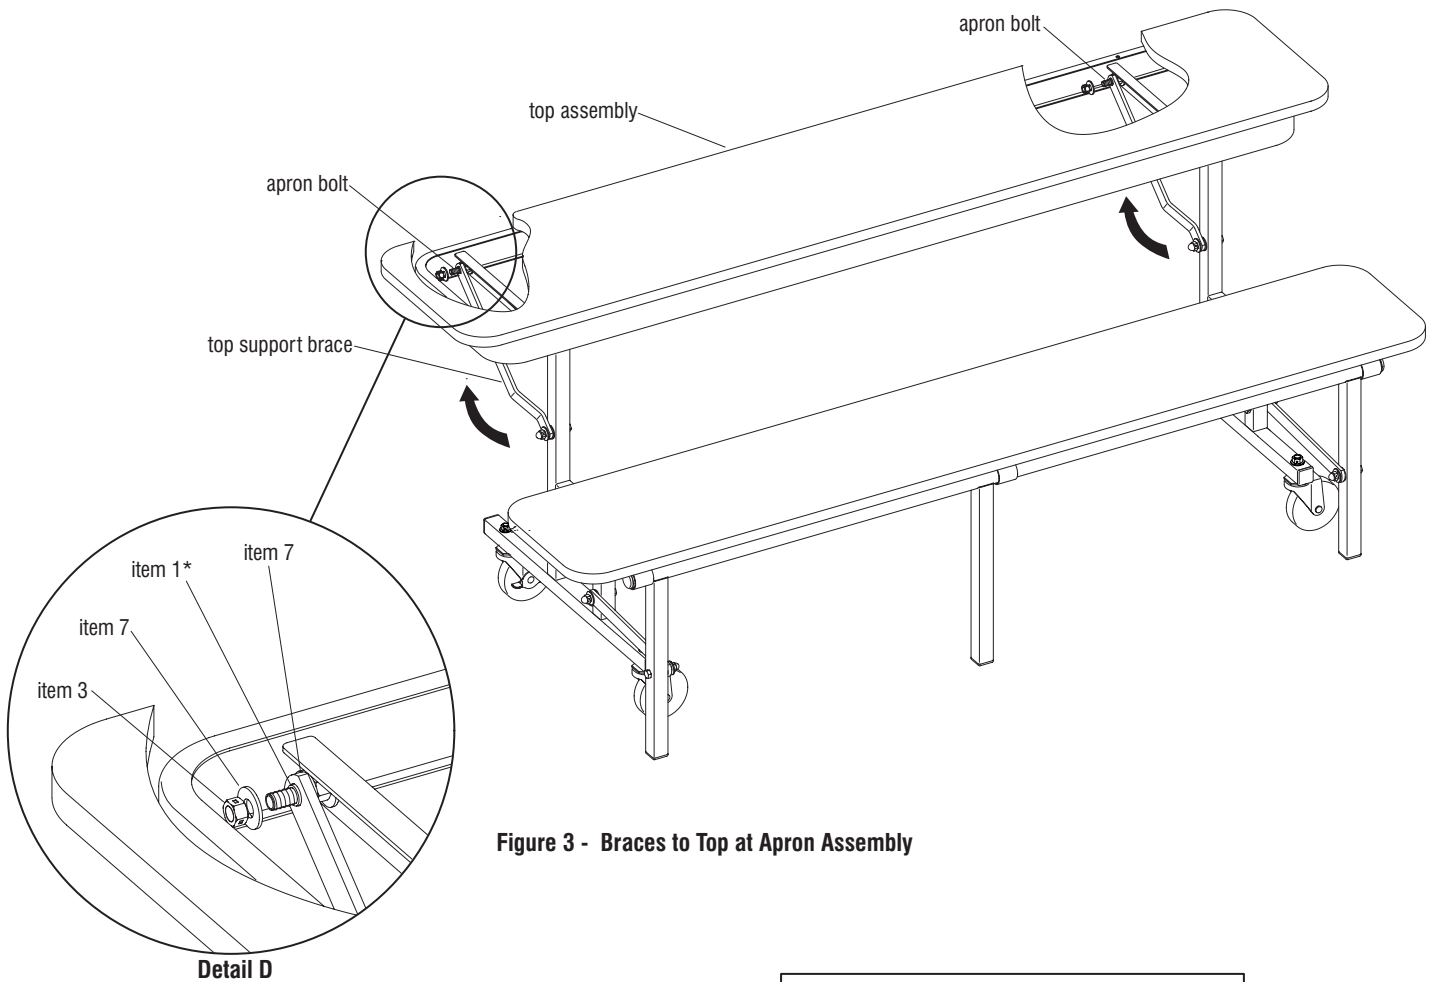

Figure 3 - Braces to Top at Apron Assembly
1. Attach 3/8" flat washer (item 7) and steel spacer (item 1) onto both apron bolts in sequence shown (Figure 3 & Detail D).
2. Rotate top assembly up (Figure 3).
3. Rotate both top support brackets up and locate them onto the apron bolts. Spacers go into the brace hole (Figure 3 & Detail D).
4. Install 3/8" flat washer (item 7) and 3/8"-16 nylon lock nut (item 3) onto apron bolts and tighten (Detail D).